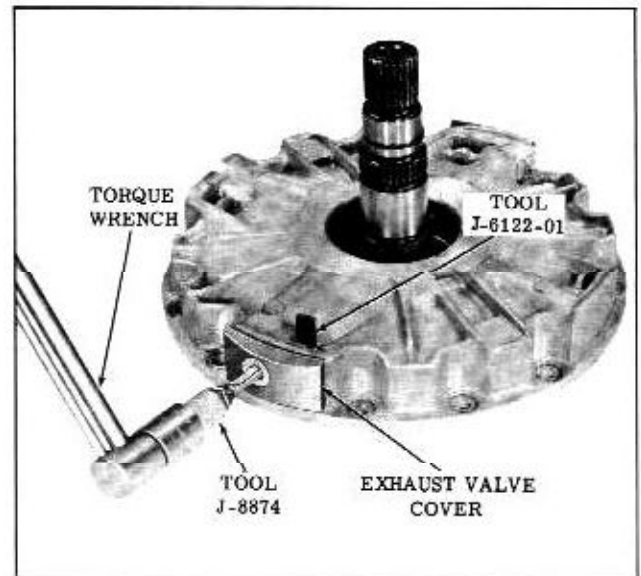

Fig. 3-68 Installing Exhaust Valve Cover
4. Replace torus cover exhaust valve covers and new gaskets with attaching screw and Tool J-8874. Torque to 20-25 ft. lbs. (Fig. 3-68)